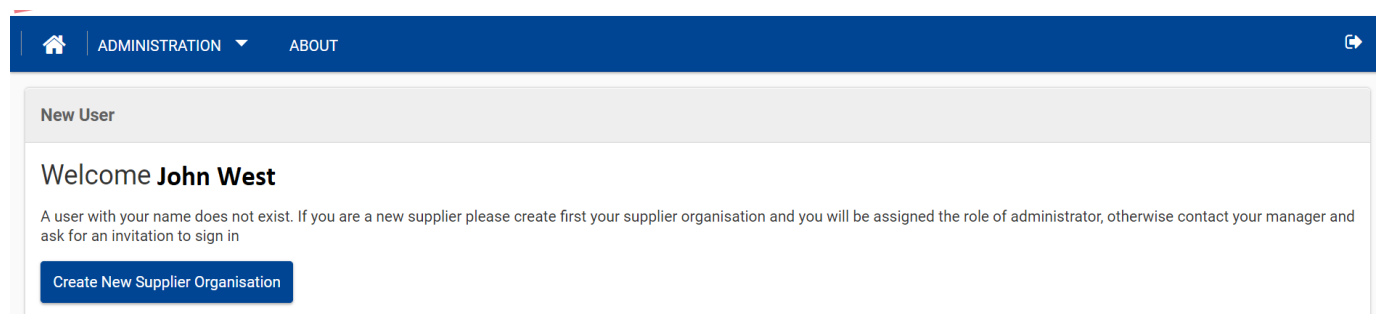

Figure 22 - Start creating your EPREL organisation
1. **Legal person** (Figure 22 - Start creating your EPREL organisation): entity commercialising under an Organisation business name. If you are a Legal Person, the following information is required: